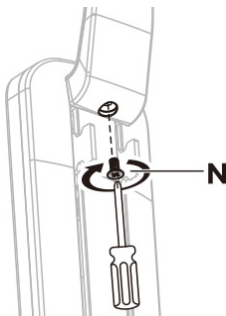

Figure 4
4. Using the **M4x8mm Screws** and a **Screwdriver**, fasten the **Lever Front Cover** to the **Lever Back Plate** by carefully driving the **M4x8mm Screw** through the mounting hole on **Lever Front Cover** and into the mounting point on the **Lever Back Plate**. As shown in Figure 4.